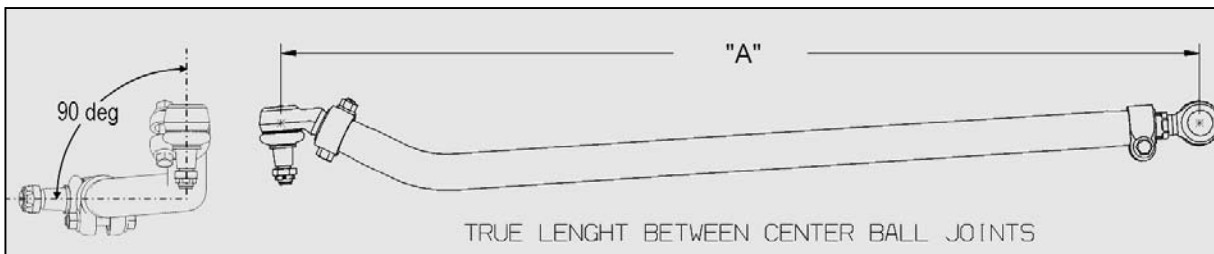

FIGURE 1
7. Unscrew the drag link elbow ball joint back out (**not more than 1 turn**) so the tapered shank points down as shown on FIGURE 1.
8. Unscrew the drag link elbow ball joint back out **one (1) full turn**. The tapered shank must point down as shown on FIGURE 1.
9. Unscrew the drag link elbow ball joint out **1 inch**. The tapered shank must point down as shown on FIGURE 1.